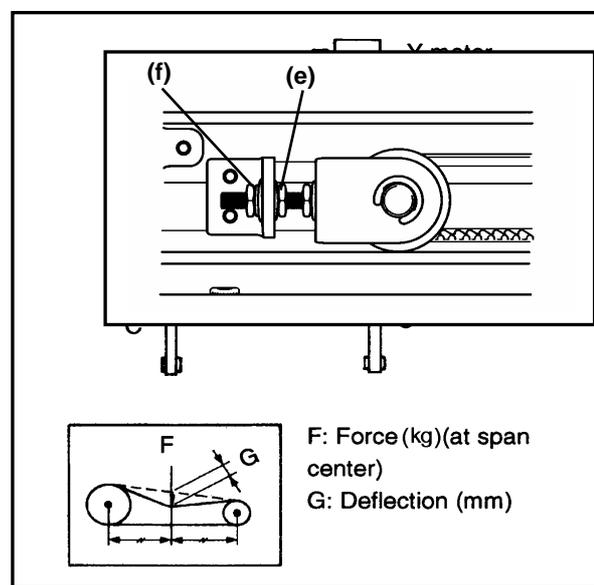

FIG.2
- (6) When applying a force of 0.95kg to drive belt C, amount of deflection G must be 7.4 ± 1.48 mm. (Fig.2)